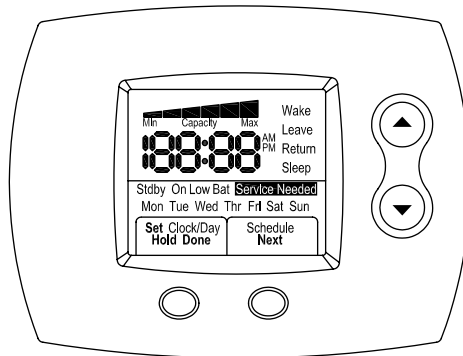

Figure 38
Step 1: Initially, all the segments on the screen are shown when the Setback Control is powered up. This is shown in Figure 38.